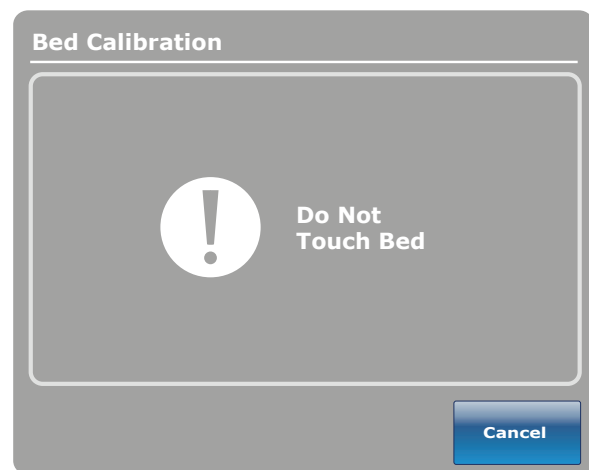

Figure 18: Do Not Touch Bed Screen
21. The “Do Not Touch Bed” screen will appear as shown in Figure 18.